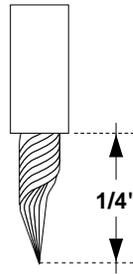

Figure 9. Preparing the End of a Bare Wire
- 2 To prepare your power cabling, cut off 1/4-in. insulation on either end of the red and black power wires using wire strippers, and twist the bare strands of wire together, as shown in Figure 9.